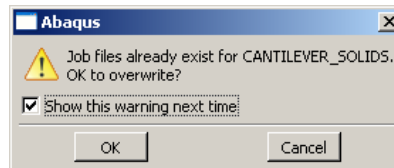

Figure 30. Warning Message
- Right click the job called **CANTILEVER_SOLID5** and click the **Submit** option. If you see a warning (Figure 30) Click **OK**. The intent of this warning is to prevent the user from accidentally overwriting a previously completed analysis with the same name.